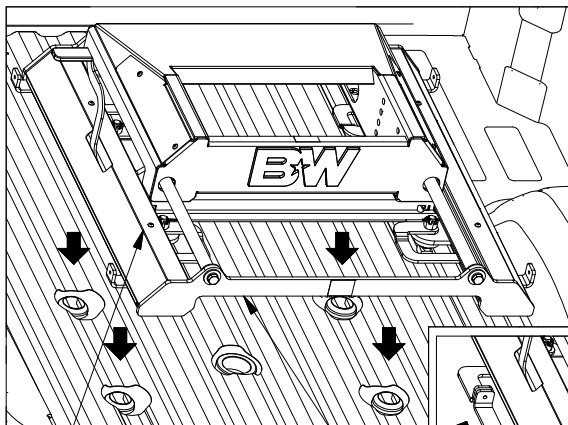

Figure B1:
CAUTION: Lifting the slider base under the sheet metal covers may cause damage to the base, grip base by end rail supports to lift, see Figure B1.
- 1. Place base.** Remove the latch pins from each side of the base and rotate the handles out, see Figure B1. Position the base over the attachment points. Carefully lower it until the latch cams pass through the floor and the base rests flat against the top of the attachment points.